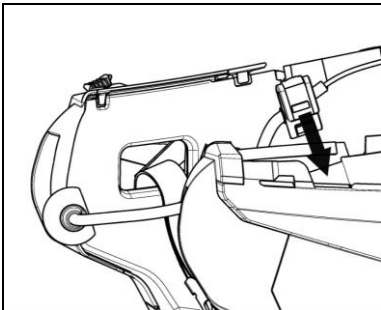

Fig. 7
- Fix the cable inside the helmet and make sure the right fixing clip snaps into its housing (Fig. 7).